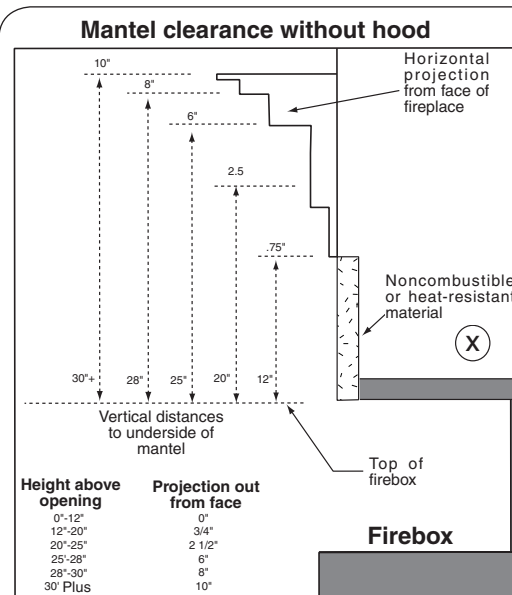

Fig. 10-2
Mantel: (see Figs. 10-2, 10-3, and paragraph A below)
To install the unvented gas log set, there must **ALWAYS** be noncombustible or heat-resistant material immediately above the fireplace opening. Heat-resistant materials (i.e., marble or slate) must be at least  $\frac{5}{8}$ " thick. Sheet metal should not be installed onto combustible materials. If you **DO NOT** install a fireplace hood, there **MUST** be at least **12"** of noncombustible or heat-resistant material immediately above the fireplace opening (see X in Fig. 10-2 below). If you **DO** install a fireplace hood, there **MUST** be at least **10"** of noncombustible or heat-resistant material immediately above the fireplace opening (see Y in Fig. 10-3 below). If there is a wooden mantel, shelf, or other combustible projection above the fireplace, follow the information in Fig. 10-2 or Fig. 10-3 below.
1. If a fireplace hood is not installed - 2.5" (see Fig. 10-2).